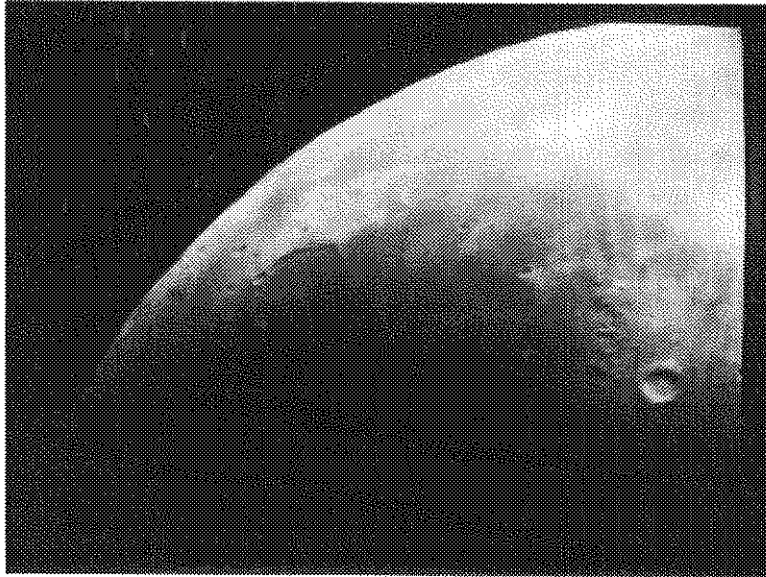

Figure 14: Photograph of a Video Signal
- Step 6:** Study the resulting print. It should appear similar to Figure 14. If the print is uniformly overexposed, reduce either the shutter timing or the monitor intensity. If the print is uniformly underexposed, increase the shutter timing or the monitor intensity.